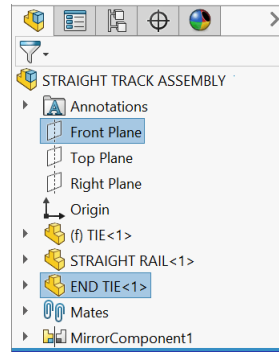

Fig. 27
Step 1. **Ctrl click Front Plane** and **End Tie** in the Feature Manager to select plane and component, **Fig. 27**.